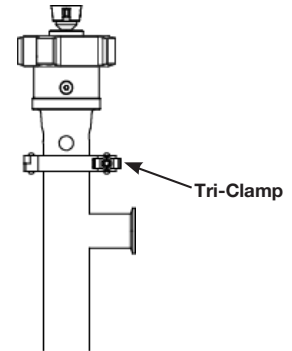

Figure 5
5. Remove Tri-Clamp connection (see Figure 5).
- Install tri-clamp connecting bearing housing to outer tube (see Figure 5, page 4).